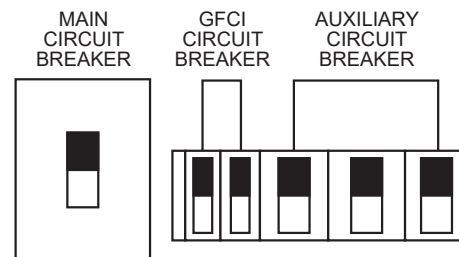

Figure 55. Main, Auxiliary, and GFCI Circuit Breakers (ON Position)
12. Place the **main, auxiliary, and GFCI circuit breakers** in the **ON** position (Figure 55).